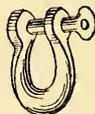

FIG. 326.
*Shackle.*—A U-shaped crook with an eye in each end, through which a screw bolt is passed. Various used, and are often preferred to hooks. (Fig. 326.) There is a shackle at every fifteen fathoms of cable, so that by unshackling it